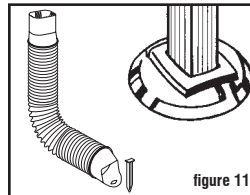

figure 11
Choose from 2 ways to terminate downspout. Place downspout into tile cover (5). If no underground drain exists, attach diverter (8) to downspout to direct runoff flow away from the house (figure 11).